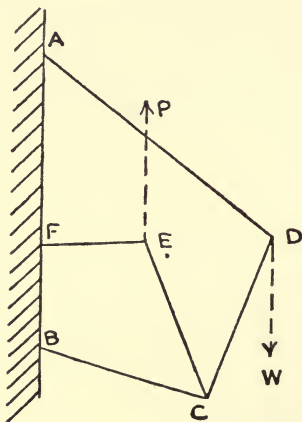

Fig. 2.
4. In the framework of rods shewn in Fig. 2,  $ABCD$  and  $CEFB$  are similar kite-shaped quadrilaterals, each quadrilateral having two pairs of equal sides. The framework is hinged to fixed points  $A$ ,  $F$  and  $B$ . Use the principle of work to find the magnitude of the vertical force  $P$  which will balance  $W$  acting at  $D$ .